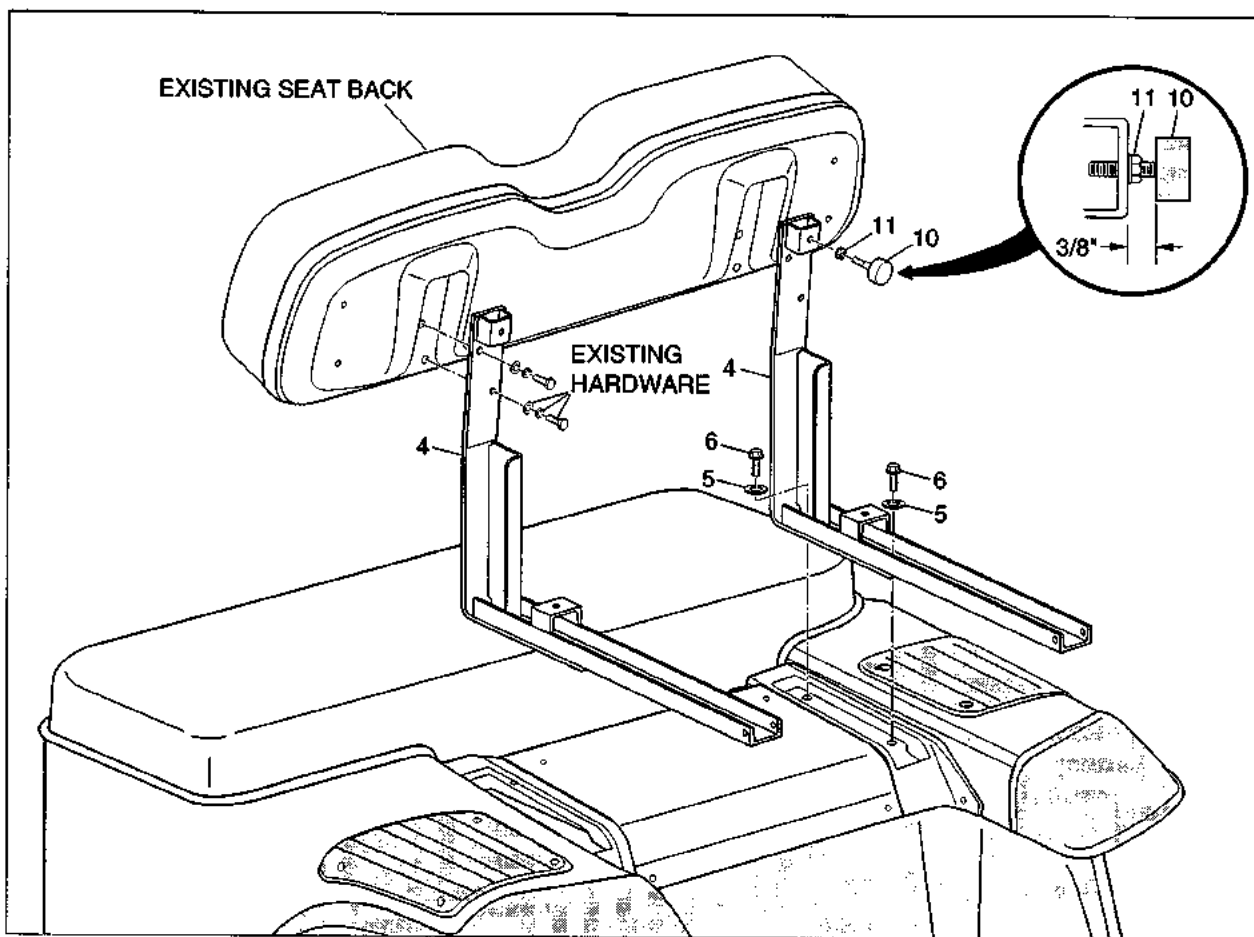

Fig. 3
B. INSTALLING SEAT BACK SUPPORT (Refer to Fig. 3)
2. Install the new seat back supports (item 4) to the frame using washers (item 5) and screws (item 6). Finger tighten hardware to allow for adjustment.
4. Install rubber bumpers (item 10) on vertical part of seat support bracket using one lock nut (item 11) (per bumper) as shown in Fig. 3. Tighten to dimension specified.